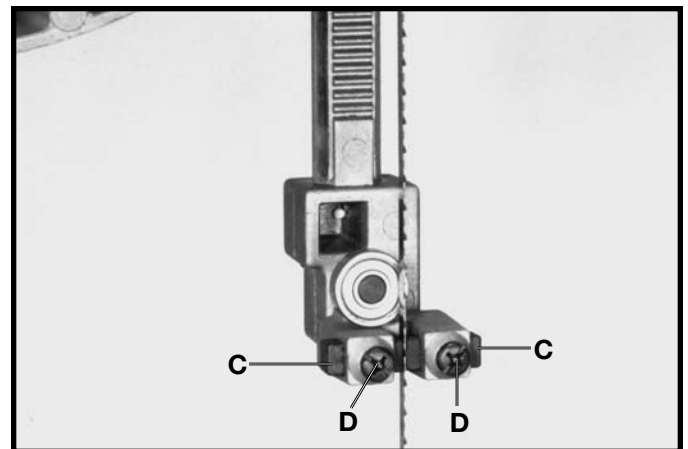
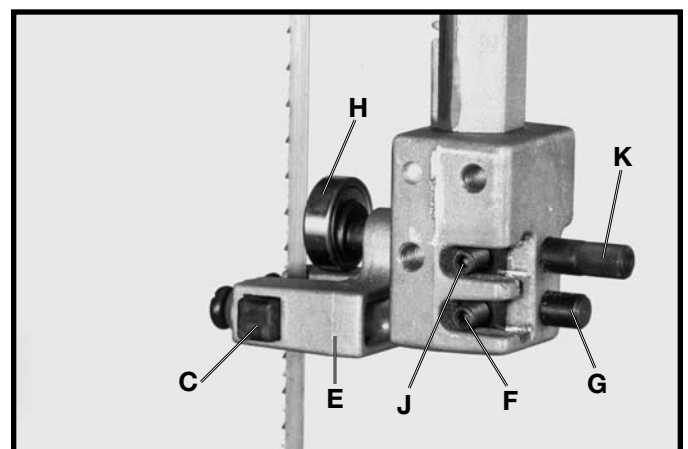

Fig. 23
Fig. 24
3. The upper blade guides (C) Fig. 23, are held in place by means of the screws (D). Loosen screws (D) to move the guides (C) as close as possible to the sides of the blade, being careful not to pinch the blade between the guides. Then tighten the screws (D).
4. The guides (C) Fig. 23, should then be adjusted so that the front edge of the guides are just behind the “gullets” of the blade teeth. The complete guide block bracket (E) Fig. 24, can be moved in or out by loosening screw (F) Fig. 24 and moving shaft (G) Fig. 24 in or out as desired. When guides (C) Fig. 23 are set properly, tighten screw (F) Fig. 24.
5. The upper blade support bearing (H) Fig. 24, supports the back of the blade during the cutting operation and also prevents the blade from being pushed too far to the rear, which could damage the set in the blade teeth. The support bearing (H) should be set about 1/64 behind the blade by loosening screw (J) and moving shaft (K) in or out. Then tighten screw (J).
6. The upper blade support bearing (H) Fig. 24, should also be adjusted so the back edge of the blade overlaps the outside diameter of the ball bearing by approximately 1/8 . The bearing shaft (K) is on an eccentric and to change bearing position, loosen screw (J) and rotate shaft (K) until correct adjustment is made. Then tighten screw (J).